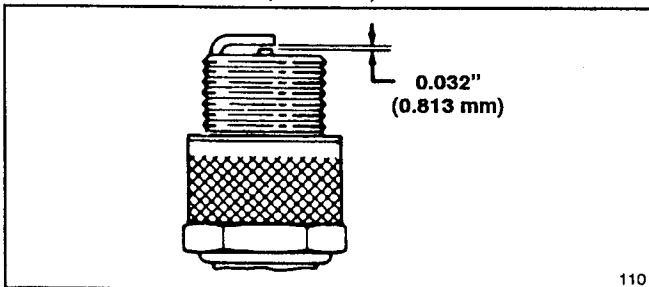

Figure 14
3. Set air gap at 0.8 mm (0.032") (Fig. 14). Install correctly gapped spark plug and gasket seal. Tighten plug firmly to 20 N·m (15 ft-lb).